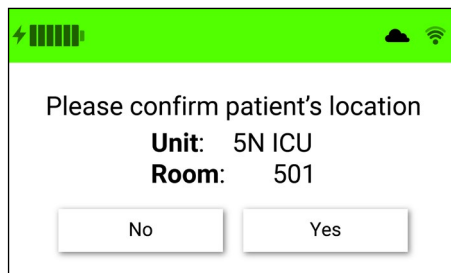

Figure 36. Validate patient unit and room number screen
- Whenever the Guardian 2.8 General Use System is unplugged and then plugged back into AC power during use, it will prompt the user to validate the current patient unit and room number. (Fig. 36)